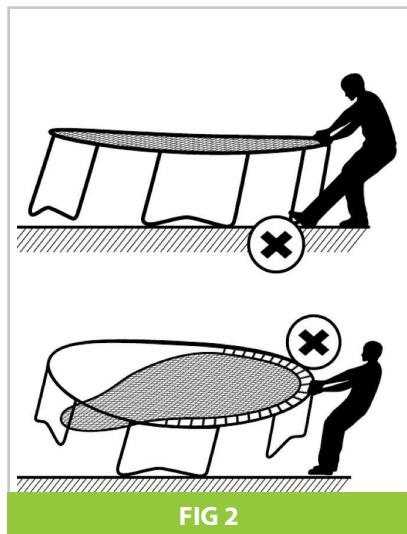

FIG 2
- Make sure NOT to use one's leg to push against the trampoline leg or frame when loading the springs. It will cause the trampoline to warp (FIG 2).
- DO NOT load the springs onto the frame on only one side of the trampoline. Uneven distribution of tension from the springs will cause the frame to warp (FIG 2).